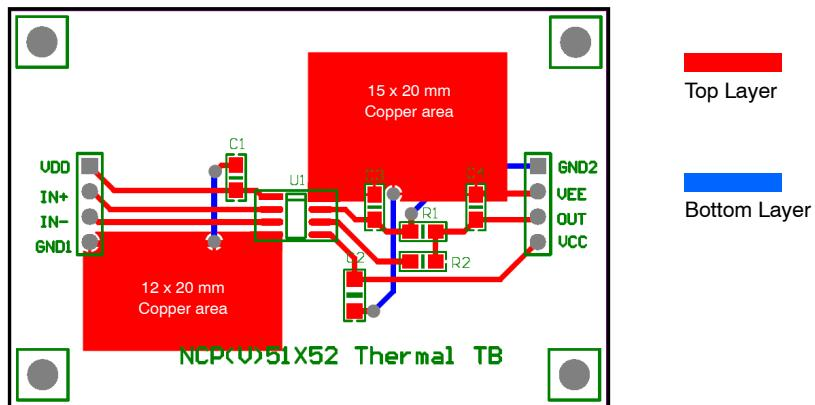

Figure 4. Reference Layout for the Type-A
7. As specified for a reference layout shown in Figure 4. The DUT is mounted on a 60 x 40 x 1.6 mm FR4 substrate with an additional heat spreading copper of 240 mm²/300 mm² (Primary/Secondary). The copper thickness is 1 oz and test conditions is under natural convection or zero air flow.